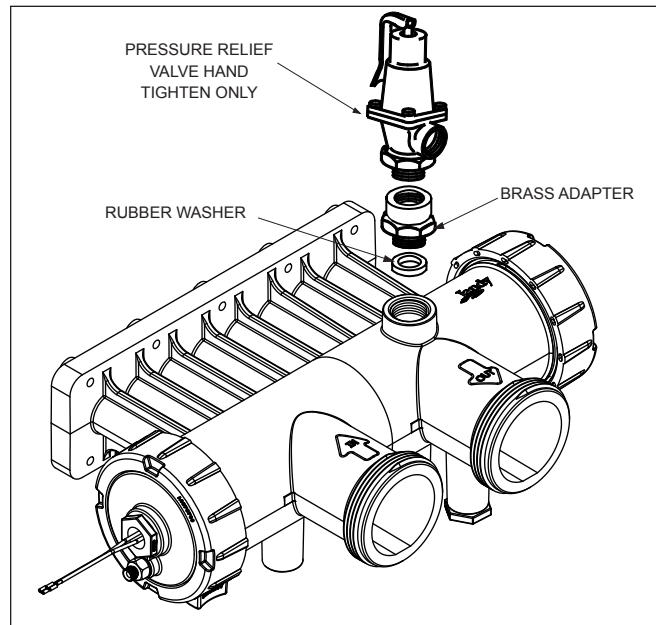

Figure 14. Pressure Relief Valve Installation
6. Install the rubber washer at the bottom of the hole (see Figure 14).
11. Install the adapter on the PRV and tighten using two (2) wrenches. Use the mark made earlier on the adapter to orient the PRV to the desired direction in relation to the water connections on the header.